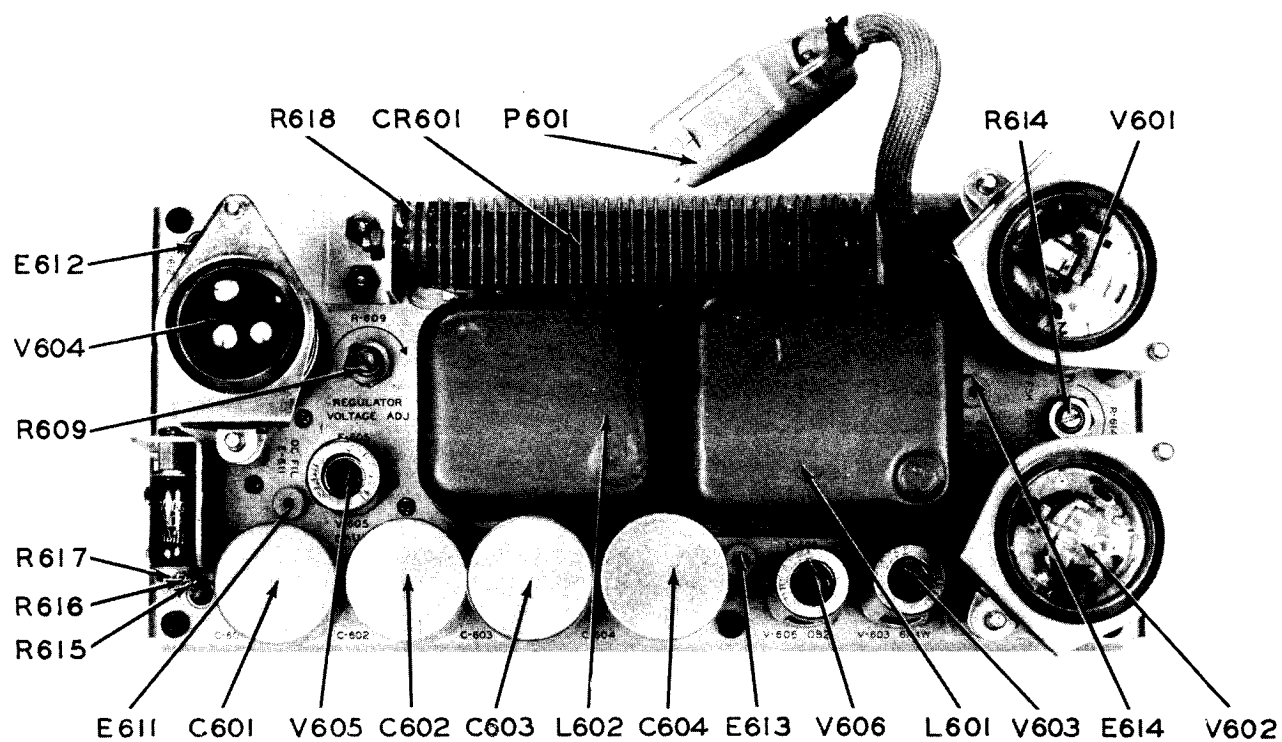

Figure 101. Power rectifier, top.
- c. Unlock REGULATED VOLTAGE ADJ potentiometer R609 (fig. 101).
- e. Voltage measured between E612 REG V (fig. 101) and ground should be + 182v dc (+3.5v dc).
- f. Voltage measured between E611 DC FIL (fig. 101) and ground should be approximately 90v dc.